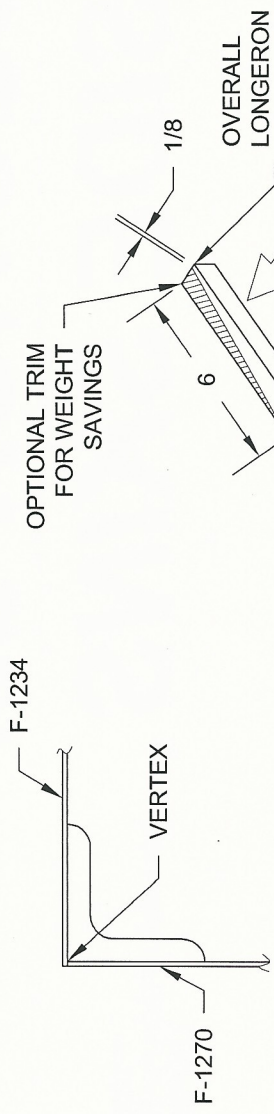

FIGURE 2: LONGERON CROSS SECTION
Step 6: Using a scrap piece of .025 thick aluminum to simulate the F-1270 Fuselage Side Skin, position the F-1234-L Canopy Deck to the F-1255-L Longeron as shown in Figure 2 (the canopy template will overhang the longeron by .025). Flush the aft edge of the canopy deck with the aft end of the template mark, then clamp the parts together. Match-Drill #30 the longeron using the canopy deck as a drill guide. Take care when drilling to ensure that the drill is perpendicular to the canopy deck. Repeat this step to match-drill the F-1255-R Longeron.